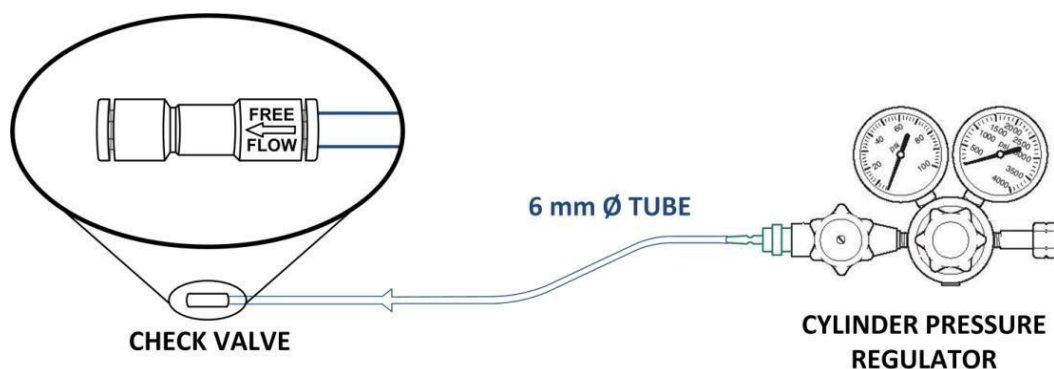

Figure 3-5
- 3. Check valves (Only for CO₂)**- Install the Check valves (provided in the package) along the gas line for each of the gas source in use. To do so, take the free end of the tube previously connected to the pressure regulator and insert it in the check valve through the push-in connector. Check valves allows the gas to flow through them in only one direction. Therefore, the check valves must be installed in the direction of flow sense, i.e. form the cylinder to the Gas blender (Figure 3-5). In case of different valves type use, please contact the MCQ INSTRUMENTS support center.